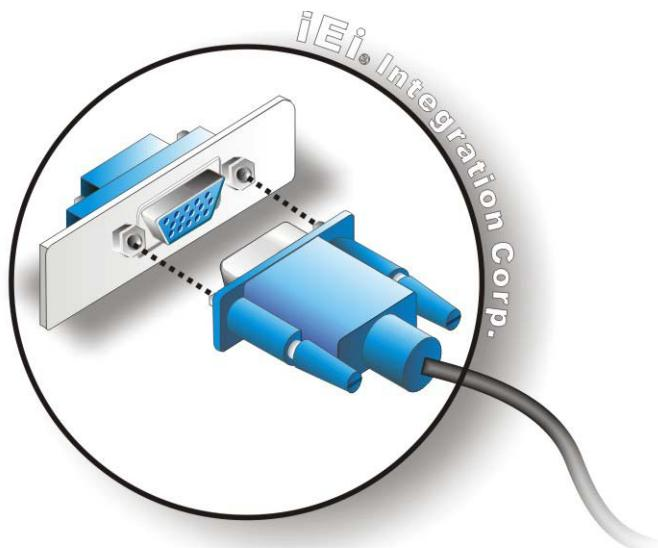

Figure 4-9: VGA Connector
- Step 3: Insert the VGA connector.** Once the connectors are properly aligned with the KINO-KBN-i2. See **Figure 4-9**.